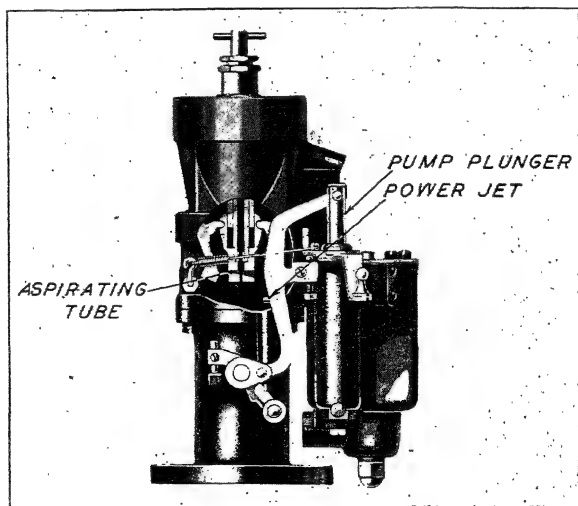
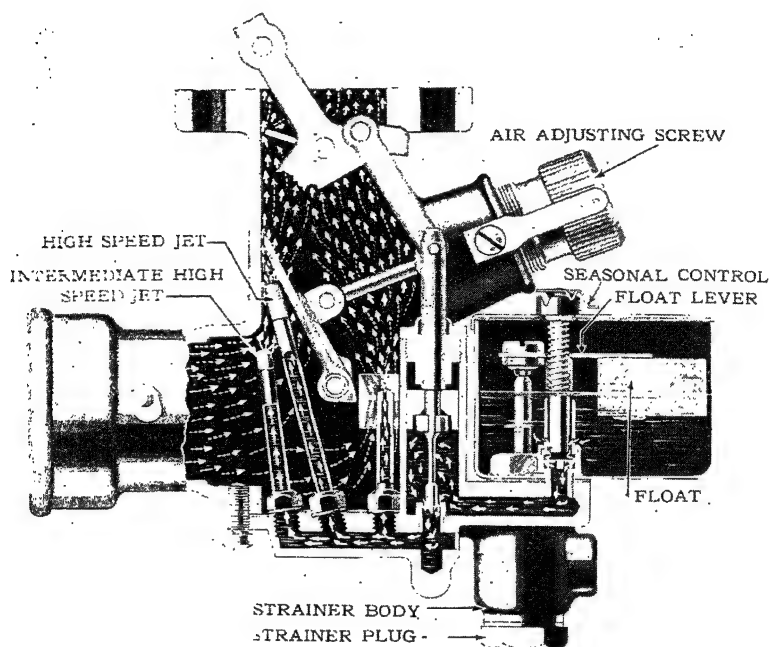

Fig. 68. Ford "V-8" Single-Barrel Carburetor
Fig. 71. The Economizer Action—Fuel and Air Are Represented by Arrows
The Ford "V-8" carburetor is of the down-draft type, specially adapted for the Ford "V-8" engine, Fig. 68. The carburetor size is  $1\frac{1}{4}$  inches. The carburetor is entirely automatic, and as the adjustments are made at the factory, it is claimed they will remain correctly set unless tampered with.
**Economizer Action.** The economizer action is illustrated in Figs. 71 and 72. The economizer metering pin is attached to the throttle control. See Fig. 68. It will be noticed that the lower end of the economizer pin is provided with an enlarged point. This point being in the economizer metering-pin jet provides a calibrated opening through which the gasoline flowing to any of the jets must